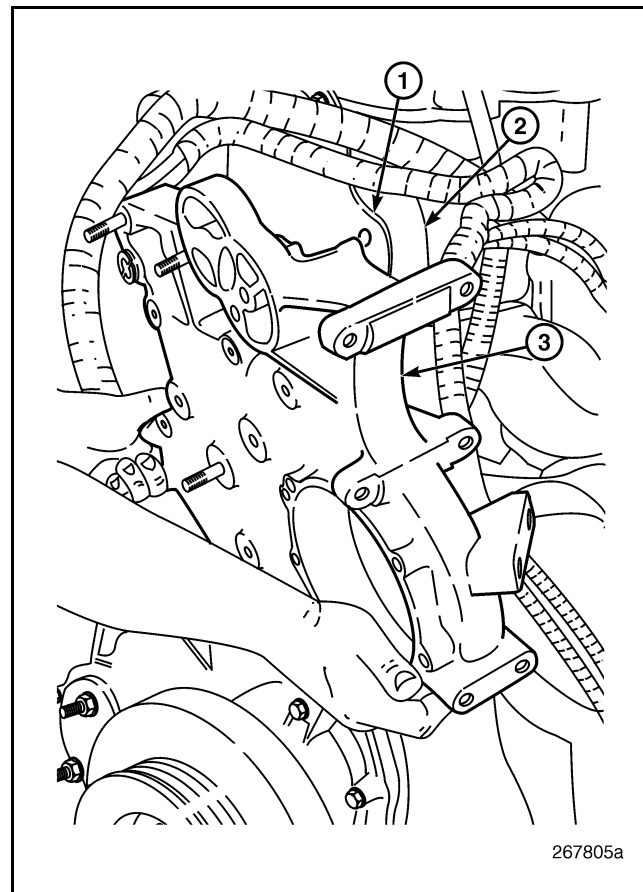

Figure 476 — Water Pump Housing
9. Remove the housing from the cylinder block (Figure 476).
5. Place the housing in position at the front of the cylinder block (Figure 476) and start the mid-position bolts into the block, far enough to secure the housing from falling. The housing should be free to move slightly back for installation of the engine lifting bracket in the following steps.